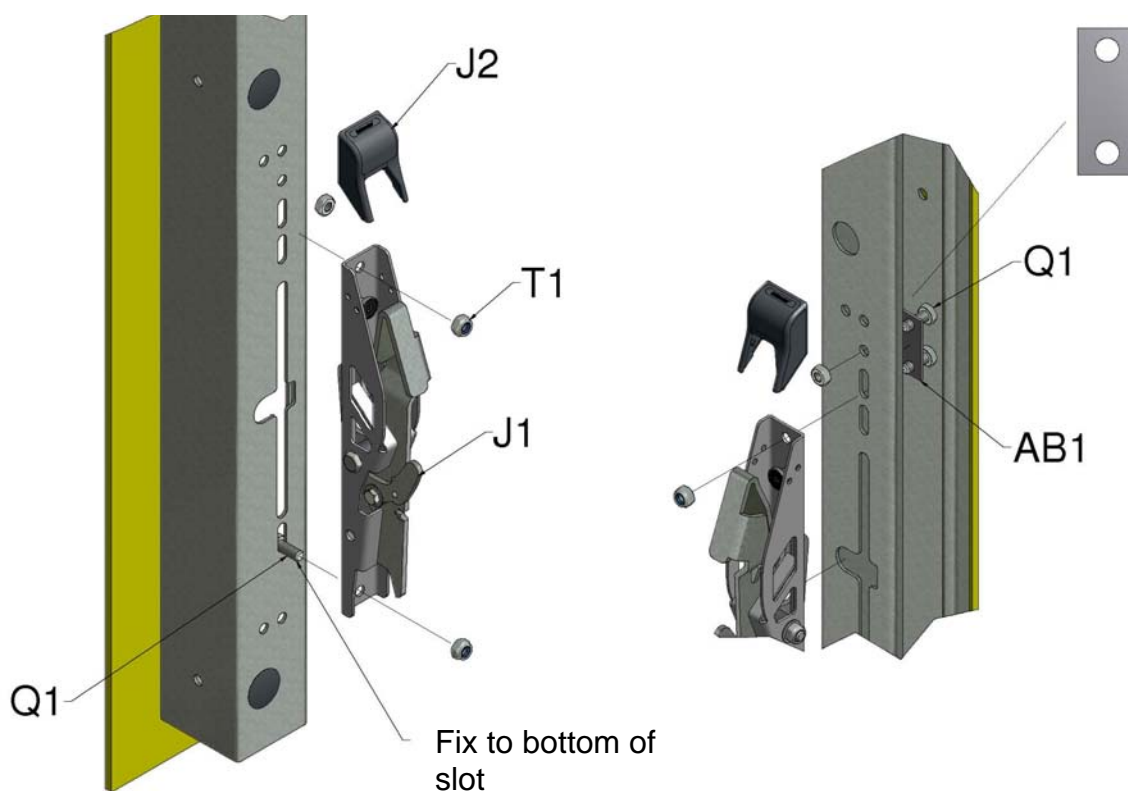

Figure 12, Bolting of Locking Catches
11. Bolt the locking catches (J1) to the pre-punched slots at the base of the guide rails using the M8x20 set screws (Q1) and lock nuts supplied (T1). Pass the upper catch screws through the locking catch stop plate (AB1) fitted on the inside of the guide rail to prevent the catch sliding up the pre-punched slots. Ensure the swinging arm of the locking catch clears the long slot in the guide rail (Figure 12). Fit caps (J2) to top of locking catches.